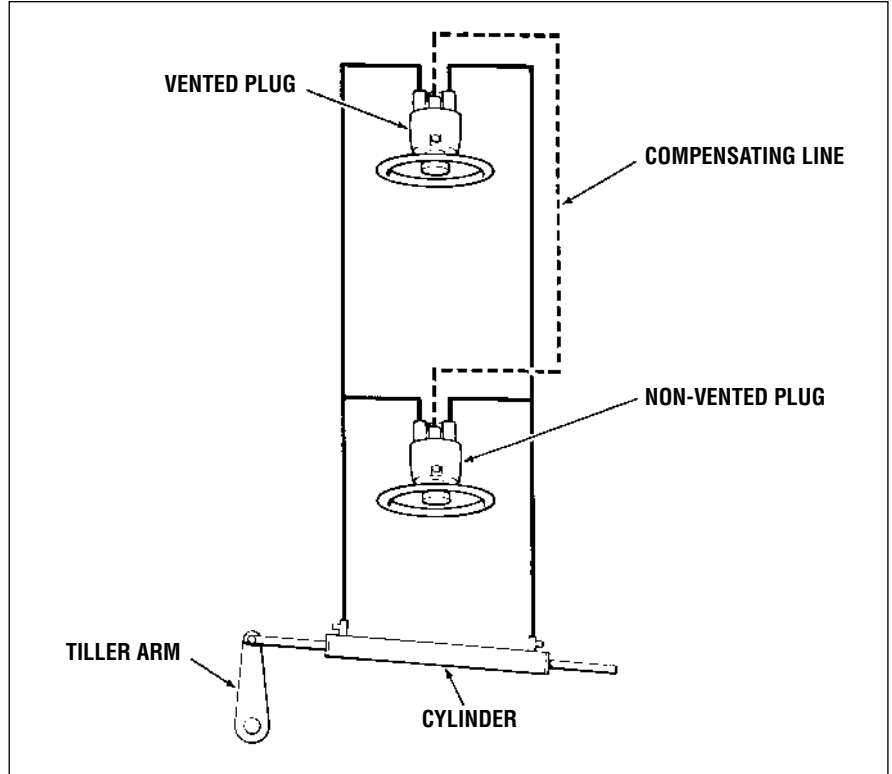

Figure 29. Dual Station.
1. Refer to figure 29 on page 23 for hose/tube to fitting connection.